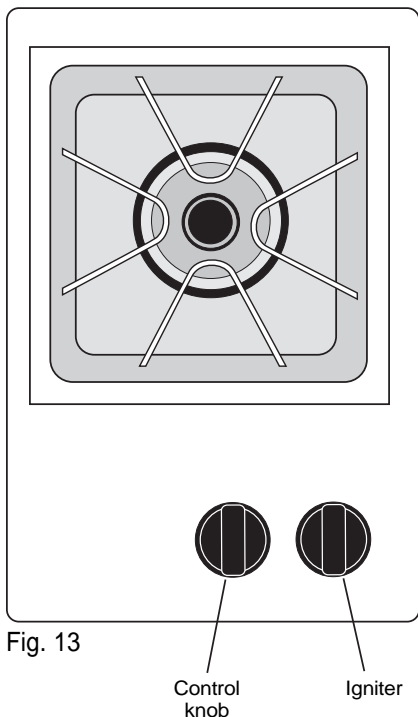

Fig. 13
1. Turn the side burner control knob to HI (see Fig. 13).